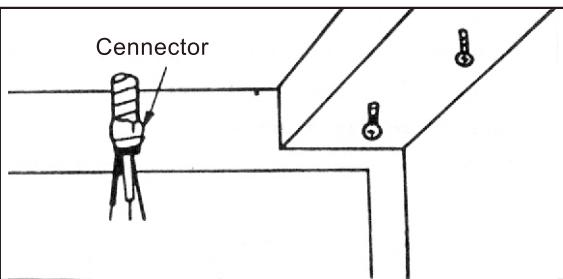

Fig .10 Take the power supply cord through the access hole.
6. Take the power supply cord through the access hole drilled on the cabinet. (Fig.10)